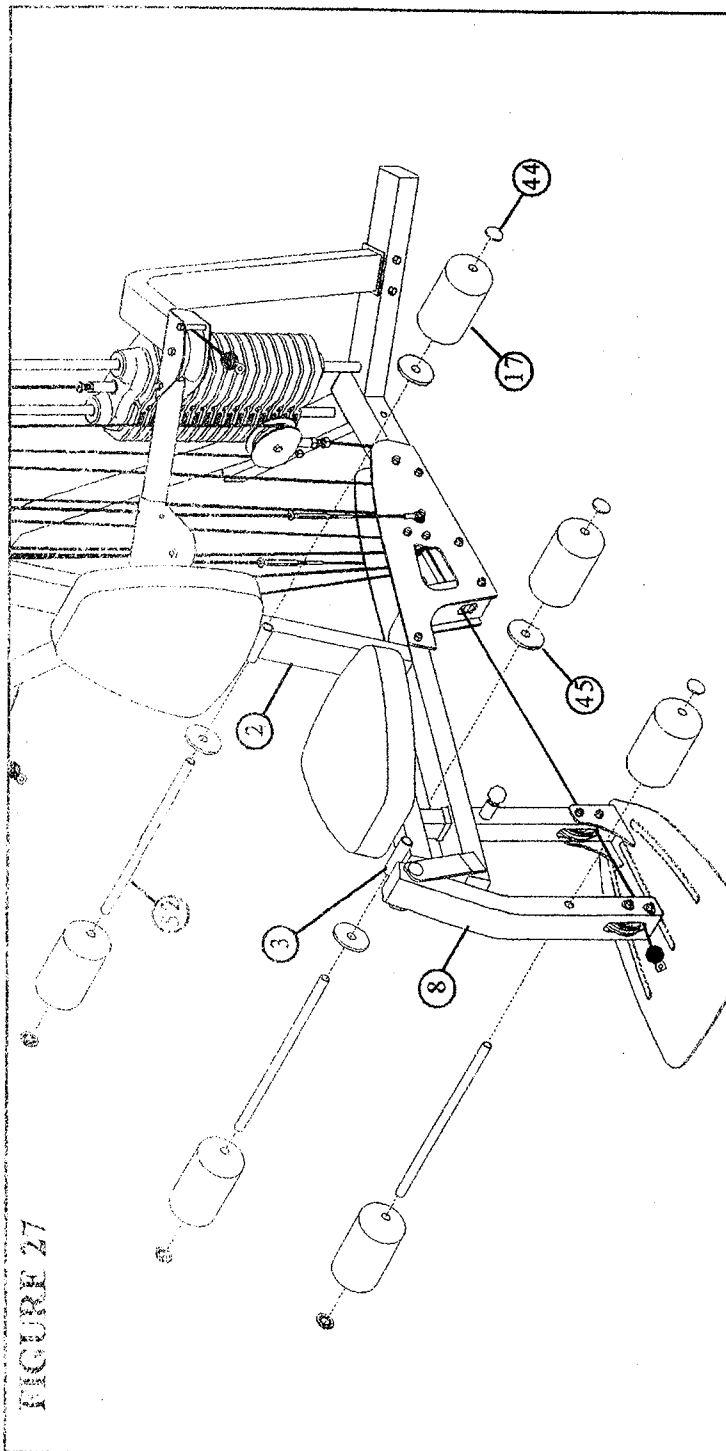

FIGURE 27
- Assemble two ROLLER PADS (17) to the LEG PEDESTAL (8) using one 3/4 X 17" TUBE (52) and two 3/4" STARLOCK COLLARS (44) as shown in FIGURE 27.
- Assemble two ROLLER PADS (17) to the SEAT ADJUST (3) using one 3/4 X 1" TUBE (52), two PLASTIC WASHERS (45) and two 3/4" STARLOCK COLLARS (44) as shown in FIGURE 27.
- Assemble two ROLLER PADS (17) to the UPRIGHT (2) using one 3/4 X 17" TUBE (52), two PLASTIC WASHERS (45) and two 3/4" STARLOCK COLLARS (44) as shown in FIGURE 27.